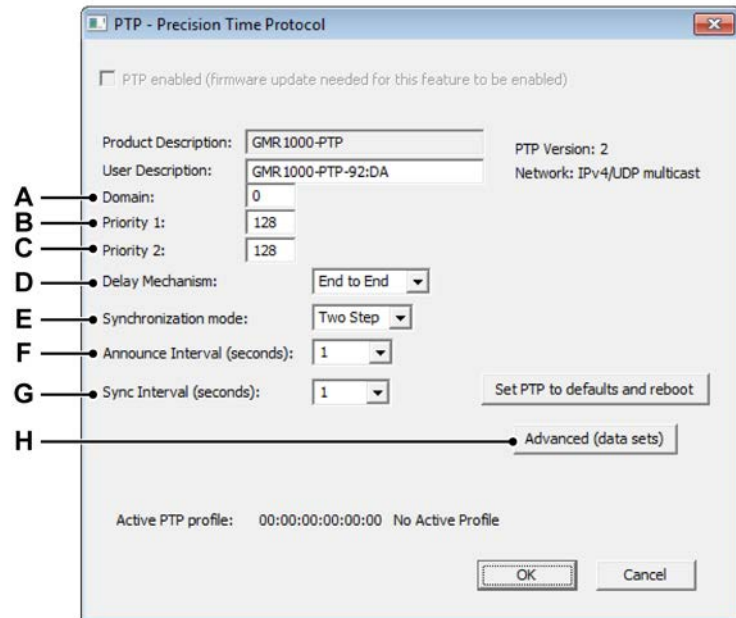
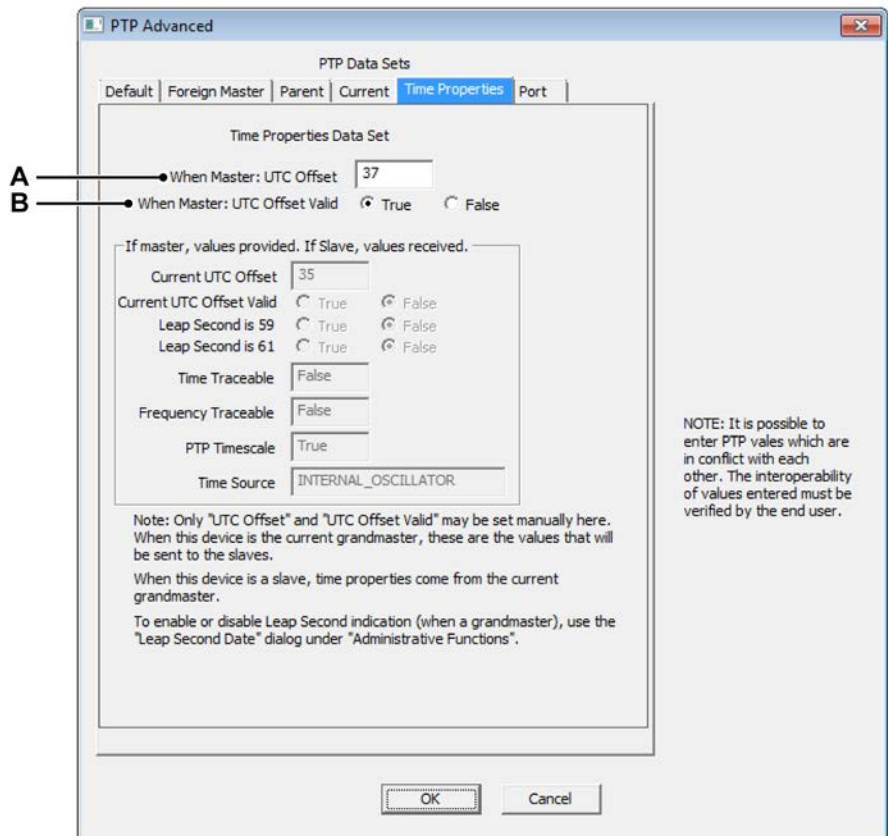

Figure D.23: PTP - Precision Time Protocol
Figure D.24: PTP Advanced - PTP Data Sets/Time Properties settings
- Click the **Advanced (data sets) button (H)** in PTP - Precision Time Protocol window (see Figure D.23) to open the **PTP Advanced** settings (see Figure D.24).